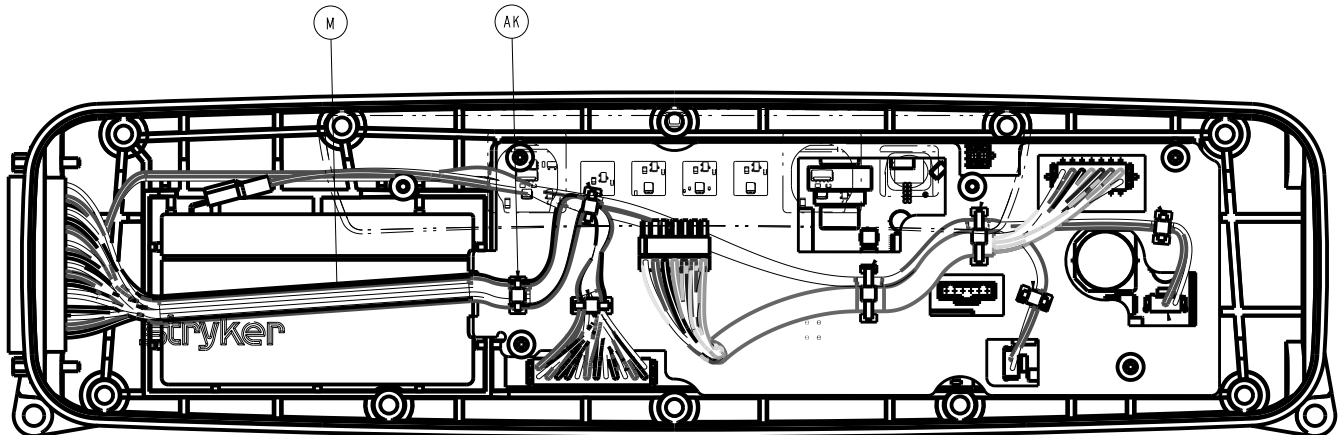

Figure 6 – Replacing the battery (left)
8. Using diagonal pliers, cut the cable tie (3000-300-114) (AK) that secures the 37-pin cable (M) to the cable routing tray (D) (Figure 6). Discard the cable tie.